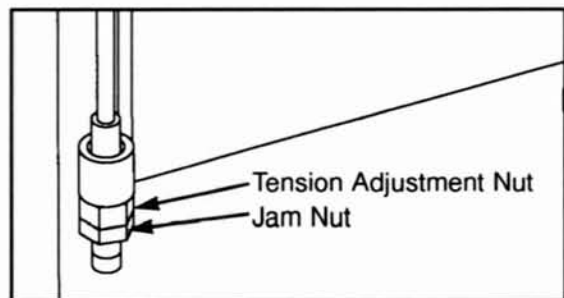

Figure 6
1. **Jam Nut Adjustment** - This type uses a jam nut and a tension adjustment nut at the cable cam end as the primary adjustment. The other end of the cable usually contains a roll pin adjustment. See Figures 6 and 8.
1. Using a 11/16" open end wrench, hold cable tension adjustment nut. With a second 11/16" open end wrench, loosen cable jam nut. See Figure 6.